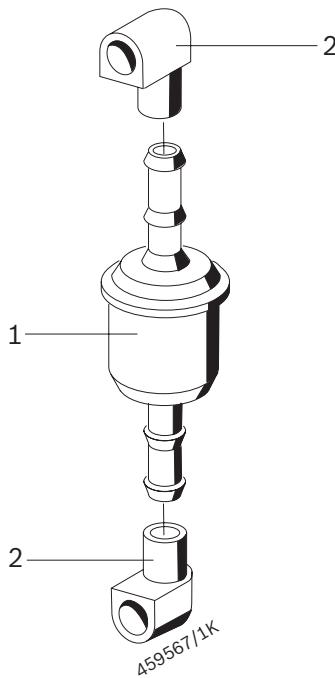

Fig. 4: Replacing the coarse filter
- Check whether both PVC hoses are connected to the gas outlets (fig. 4, pos. 6 and 7).